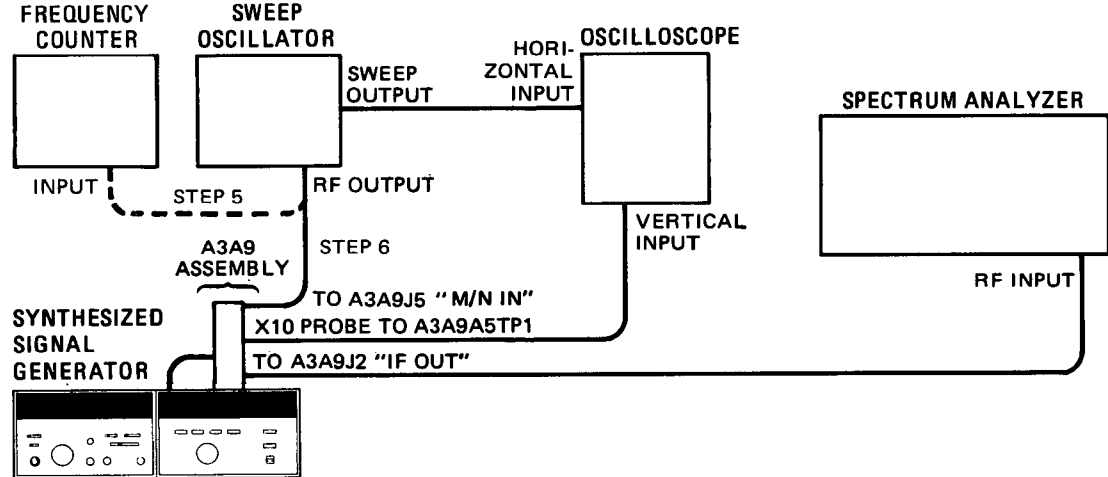

Figure 5-4. YTO Loop Sampler Adjustment Test Setup
6. Connect the equipment as shown in Figure 5-4. The sweep oscillator's RF output is connected to the M/N LOOP SIGNAL connector, A3A9J5, in place of the white-orange cable.